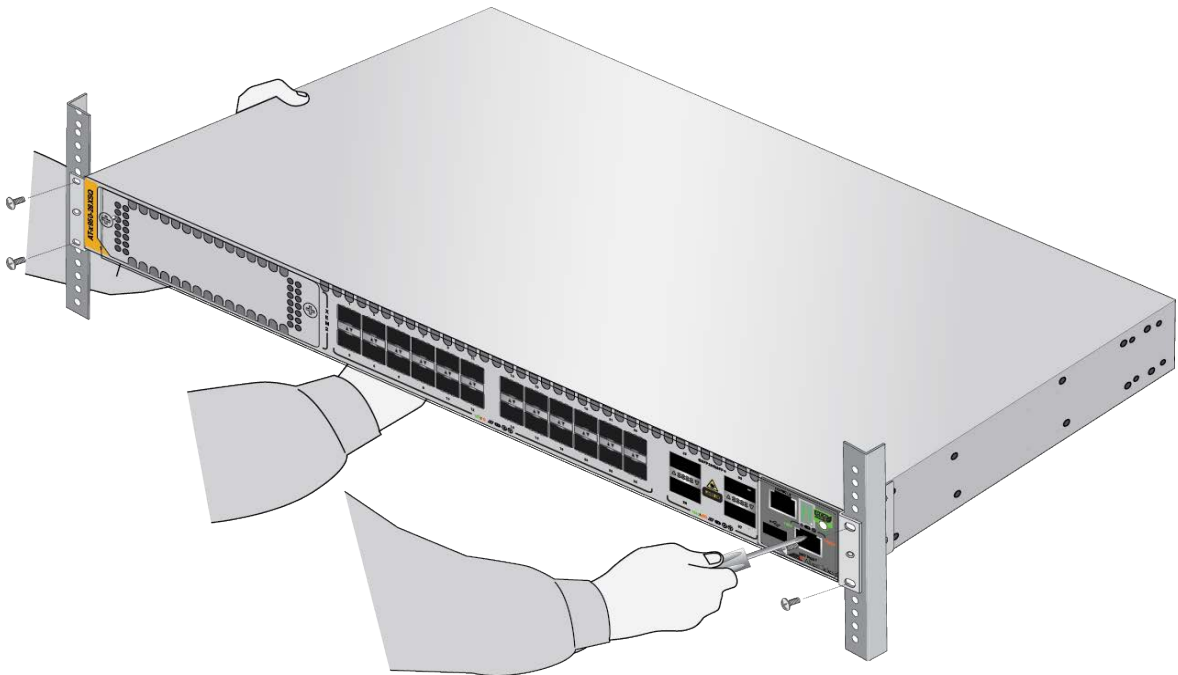

Figure 89. Installing the Switch in an Equipment Rack
4. Have another person hold the switch in the equipment rack while you secure it using standard equipment rack screws (not provided). Refer to Figure 89.